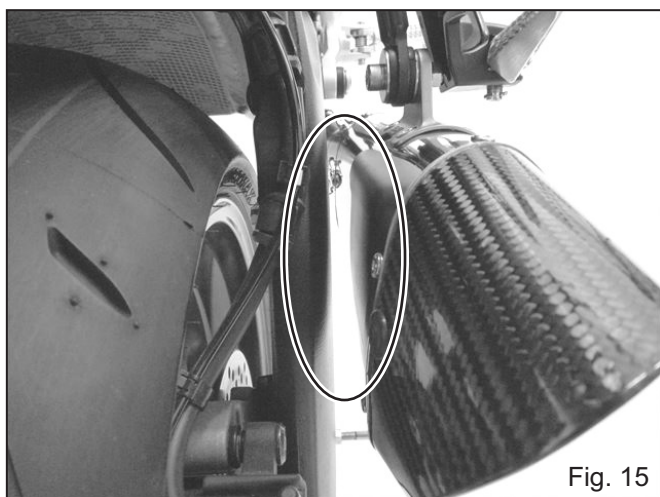

Fig. 15
- 16) Check that there are proper clearances between Yoshimura exhaust system and other components. Then, tighten and torque bolts at exhaust port and Silencer in order. (See Fig 15 & 16)